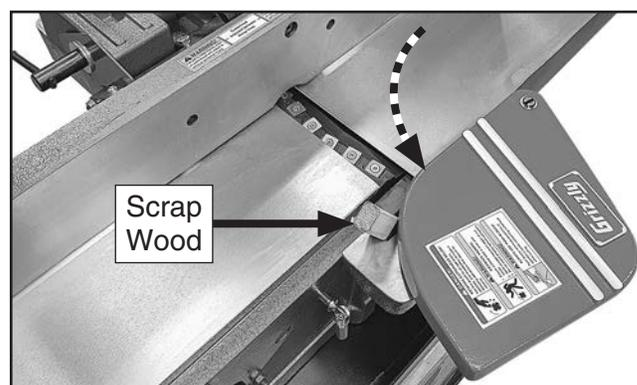

Figure 67. Cutterhead guard secured in place.
- Rotate cutterhead guard counterclockwise and secure temporarily with a piece of scrap wood (see **Figure 67**).